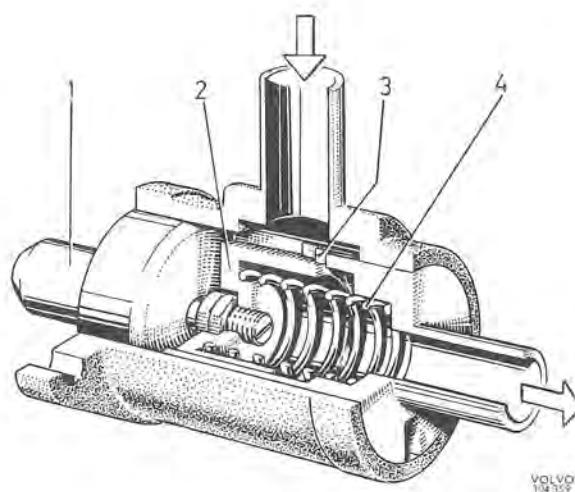

Fig. 2-113. Auxiliary air regulator
The auxiliary air regulator is located at the front end of the cylinder head and has its expanding element projecting into the coolant system, see Fig. 2-113.
The regulator operating range is from -25°C (-13°F), fully open, to $+60^{\circ}\text{C}$ (140°F), fully closed. At cold start, the auxiliary air regulator opens (how much will depend on the temperature) and admits additional air into the inlet duct. Gradually as the engine heats up, the regulator element (1, Fig. 2-113) expands and presses back the regulator (2) which, at 60°C (140°F), completely closes off the cross-sectional area of the auxiliary air pipe.